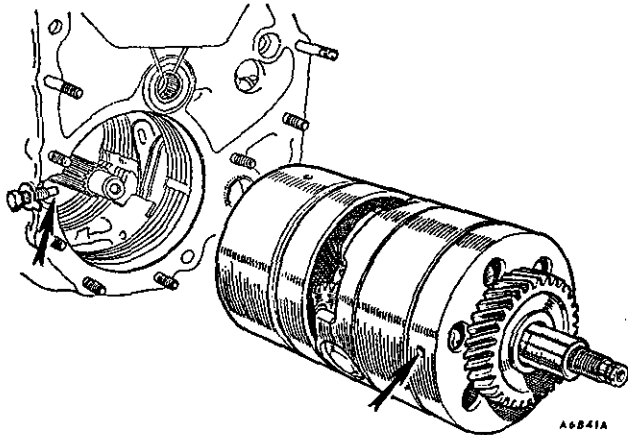
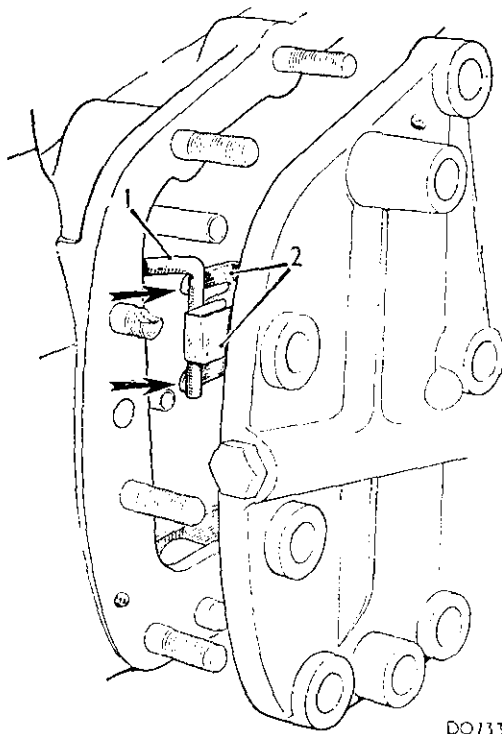

Fig. Fa. 11
Fig. Fa.21
- (10) Withdraw the forward output shaft and tap out the reverse shut-off valve. Insert the dummy output shaft Service tool 18G 1093 or 18G 1093 A.
- (11) Slacken off the servo band adjusters.
- (12) Remove the dowel bolt (Fig. Fa.11) and remove the gear train which includes the top and reverse clutch with its Torrington needle thrust bearing and steel washer, and the first gear free-wheel assembly.
- (37) Refit the auxiliary pump and governor assembly and engage the valve block linkage with the later-type governor unit as shown in Fig. Fa.21, also ensuring correct alignment with the oil pipes and the forward shaft. The plastic sleeve fitted over the rings on the shaft is for assembly purposes, and will become safely displaced along the forward clutch shaft. Tighten the securing nuts to the torque figure given in 'GENERAL DATA'.
- (38) Remove the forward clutch retainer—Service tool 18G 1097.
- (39) Refit the top and reverse clutch hub washer and the Torrington needle thrust bearing into position with grease.
- (40) Ensure that the top and reverse clutch friction plates are free to drop before refitting the gear train assembly into the transmission. Correctly position the second, third, and reverse gear bands in the case and refit the gear train, using hand pressure only to push it into position. Quick rotation of the input gear will assist in engaging the top and reverse clutch friction plates. When correctly reassembled the dowel bolt will engage easily in the freewheel support (Fig. Fa.11).
- (41) Refit the dowel bolt with a new lock washer.